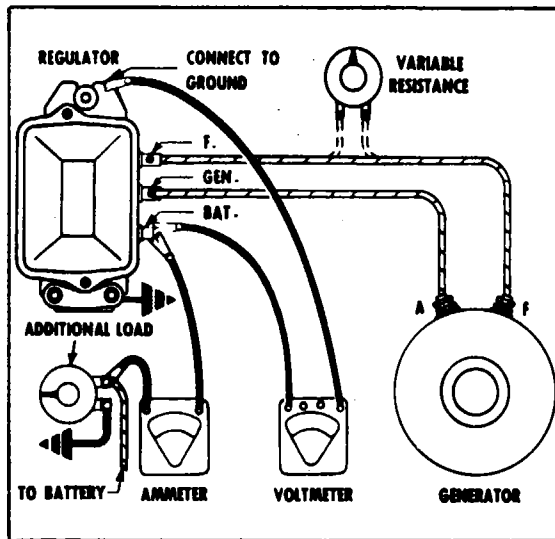

Figure 11-14. Checking Current Regulator, Load Method
- (b) Connect jumper lead across voltage regulator points as in Figure 11-14.